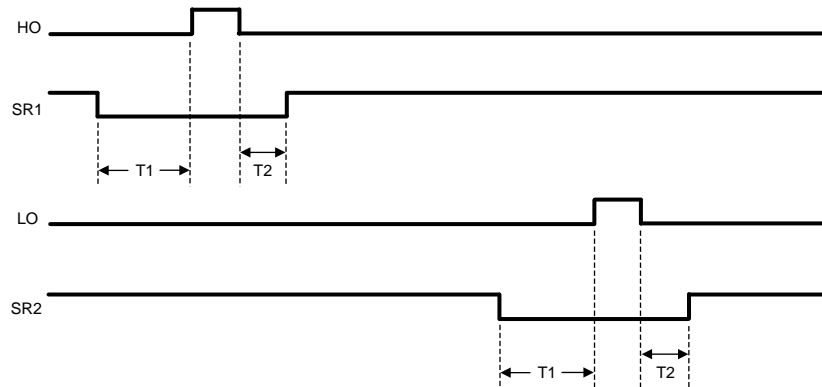

Figure 17. HO, LO, SR1 and SR2 Timing Diagram
Synchronous rectification (SR) of the transformer secondary provides higher efficiency, especially for low output voltage converters. The reduction of rectifier forward voltage drop (0.5V - 1.5V) to 10mV - 200mV  $V_{DS}$  voltage for a MOSFET significantly reduces rectification losses. In a typical application, the transformer secondary winding is center tapped, with the output power inductor in series with the center tap. The SR MOSFETs provide the ground path for the energized secondary winding and the inductor current. Figure 17 shows that the SR2 MOSFET is conducting while HO enables power transfer from the primary. The SR1 MOSFET must be disabled during this period since the secondary winding connected to the SR1 MOSFET drain is twice the voltage of the center tap. At the conclusion of the HO pulse, the inductor current continues to flow through the SR1 MOSFET body diode. Since the body diode causes more loss than the SR MOSFET, efficiency can be improved by minimizing the T2 period while maintaining sufficient timing margin over all conditions (component tolerances, etc.) to prevent shoot-through current. When LO enables power transfer from the primary, the SR1 MOSFET is enabled and the SR2 MOSFET is off.
The timing of SR1 and SR2 with respect to HO and LO is shown in Figure 17. SR1 is configured out of phase with HO and SR2 is configured out of phase with LO. The deadtime between transitions is programmable by a resistor connected from the DLY pin to the AGND pin. Typically,  $R_{DLY}$  is set in the range of 10kΩ to 100kΩ. The deadtime periods can be calculated using the following formulae:
The  $R_{DLY}$  resistor programs the delays between the SR1 and SR2 signals and the HO and LO driver outputs. Figure 17 shows the relationship between these outputs. The DLY pin is nominally set at 2.5V and the current is sensed through  $R_{DLY}$  to ground. This current is used to adjust the amount of deadtime before the HO and LO pulse (T1) and after the HO and LO pulse (T2). Typically  $R_{DLY}$  is in the range of 10kΩ to 100kΩ. The deadtime periods can be calculated using the following formulae: